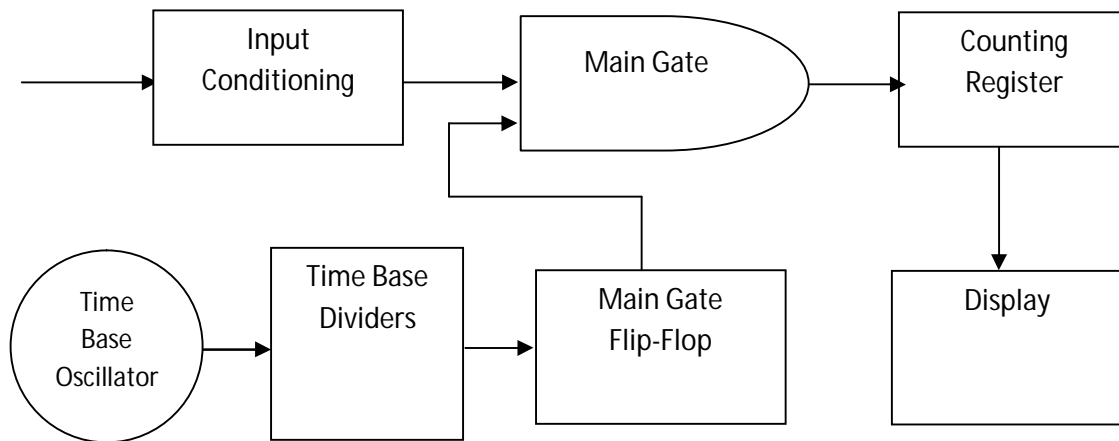

Figure 6.2: Block Diagram of the Direct Type Frequency Counter
Where, n is the number of cycles of the repetitive signal that occurs in time interval, t . If $t = 1$ second, then the frequency is expressed as n cycles per second or n Hertz. As suggested by equation (1), the frequency, f , of a repetitive signal is measured by the conventional counter by counting the number of cycles, n , and dividing it by the time interval, t . The block diagram of the direct frequency counter in its frequency mode of measurement is shown in Figure 6.2. The input signal is initially conditioned to a form that is compatible with the internal circuitry of the counter. The conditioned signal appearing at the door of the main gate is a pulse train where each pulse corresponds to one cycle or event of the input signal. With the main gate open, pulses are allowed to pass through and get totalized by the counting register. The time between the openings to the closing of the main gate or gate time is controlled by the Time Base. The accuracy of the frequency measurement is dependent on the accuracy in which 't' is determined. Consequently,